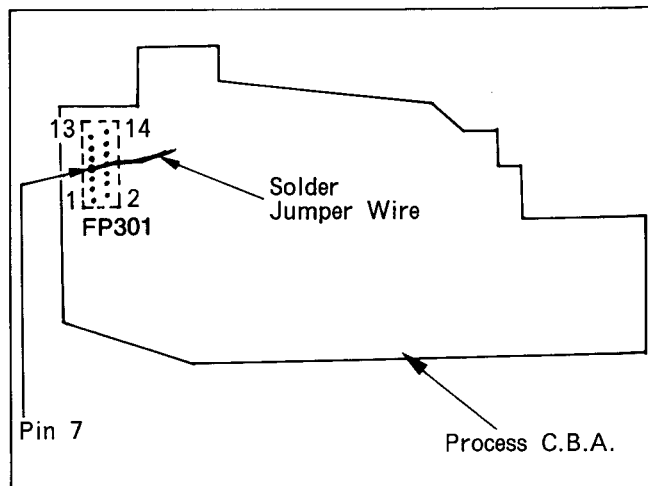

Fig. C13
- (1) Connect the jumper wire between TP4, TP5 and TP6.
- (2) Aim the camera at the gray scale chart.
- (3) Connect the scope to Pin 7 of FP301 (Refer to Fig. C13).